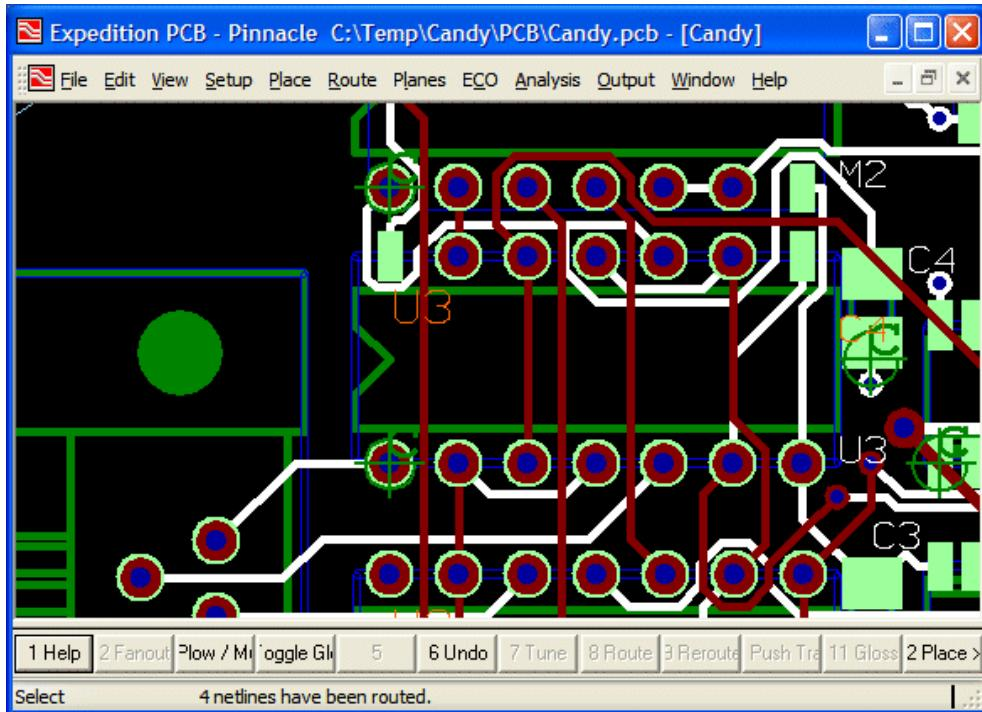

Figure 12-11. The *RouteNetlines.vbs* script reroutes the four From-Tos.
- 4) Drag the *RouteNetlines.vbs* script from your *C:\Temp* folder, drop it on top of the design, and observe that these four "From-Tos" have been rerouted; also a message is displayed to this effect in the status bar as illustrated in Figure 12-11.